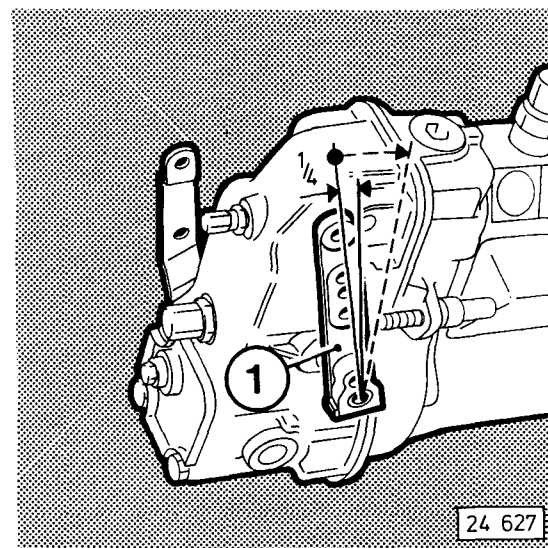
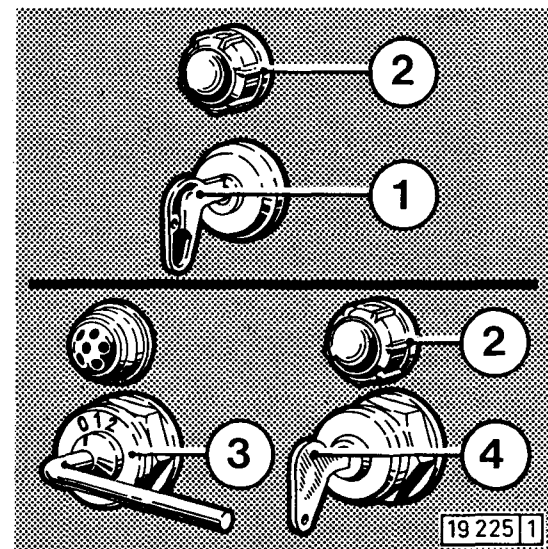
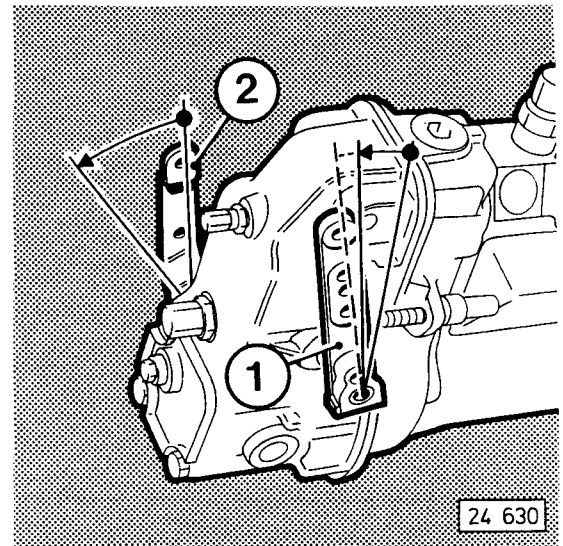

Fig. 18
Fig. 19
Fig. 25
- Move speed control lever 1 (Fig. 18) to about quarter speed by hand or foot.
- Insert starter key 1 (Fig. 19), turn clockwise to detent.
- Starter motor now turns engine; release key 1 when engine starts firing.
- Insert starter key 4 (Fig. 19), and turn clockwise to detent, checking that charging pilot lamp 2 lights up.
- Set speed control lever 1 (Fig. 25) to idling position.
- Operate stopping lever 2 (Fig. 25) on the injection pump until the engine stops, whereupon the pilot lamp 2 (Fig. 19) should light up again.
- Turn switchkey 1 or 4 (Fig. 19) fully anti-clockwise and pull out; this will cause the pilot lamp to go out.